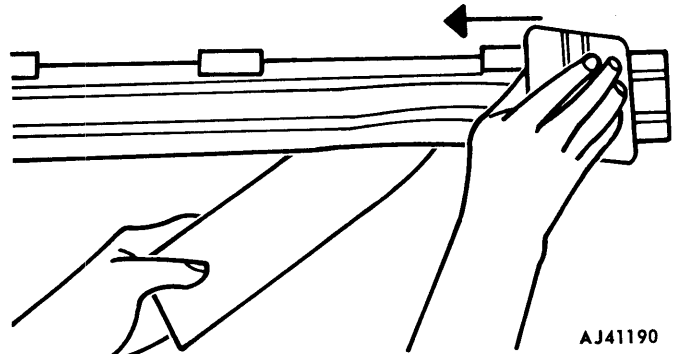

Fig. 20-18 Installing Decal with Squeegee
(6) Fold decal back to aligned position. With firm strokes, squeegee decal to panel while removing paper backing (fig. 20-18).